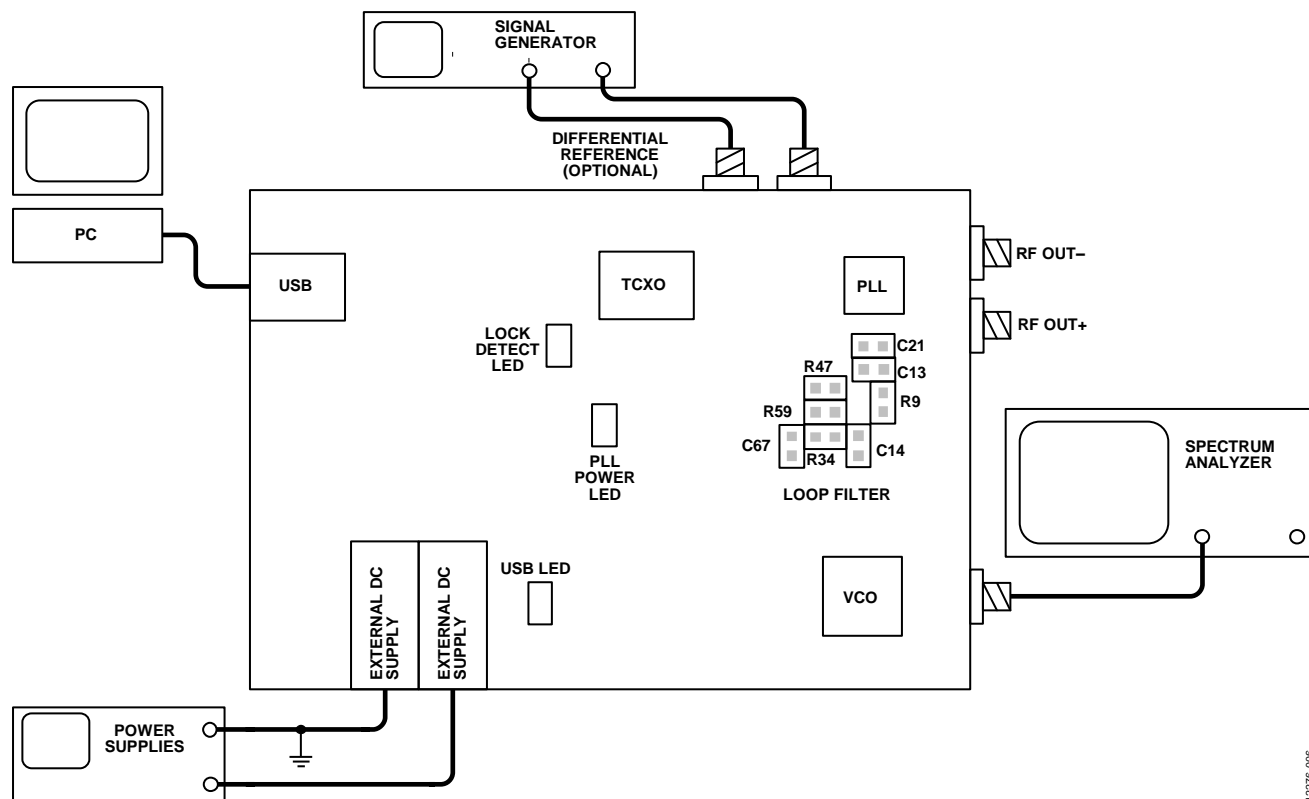

Figure 6. Typical Evaluation Setup
9. Connect the spectrum analyzer to the SMA connector VCO\_I/O. Refer to Figure 6 for a typical evaluation setup.